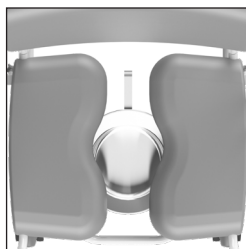
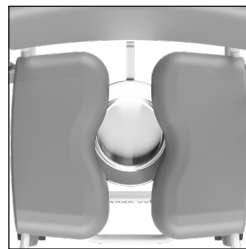

Figure 9. Stainless steel bedpan, front.
Figure 10. Stainless steel bedpan, back.
- If you are using a stainless steel bedpan or bucket, the bedpan can be placed in 2 positions under the seat. At the front of the seat (See figure 9) or at the back of the seat (See figure 10).